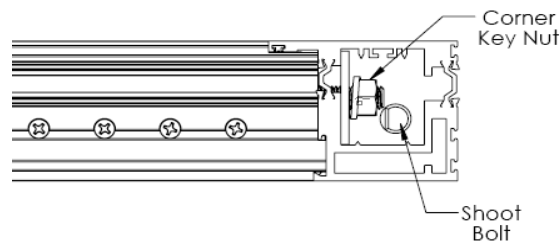

Figure C2:
5. Using a 9/16" wrench, loosen the Corner Key Nut at each of the four corners approximately 2 full turns (Figure C2).